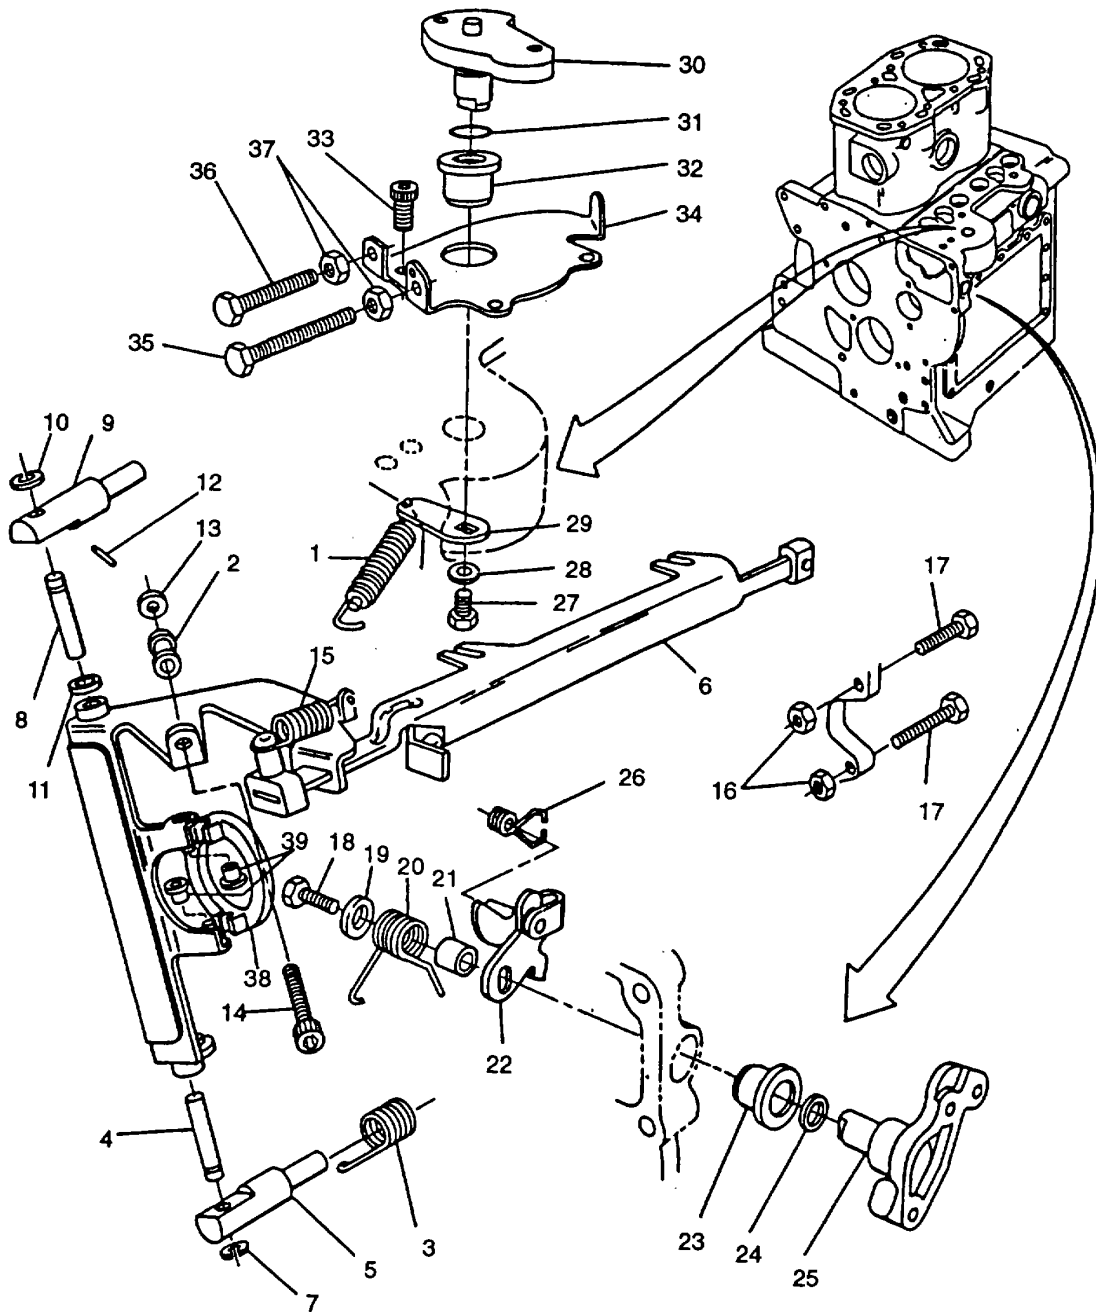
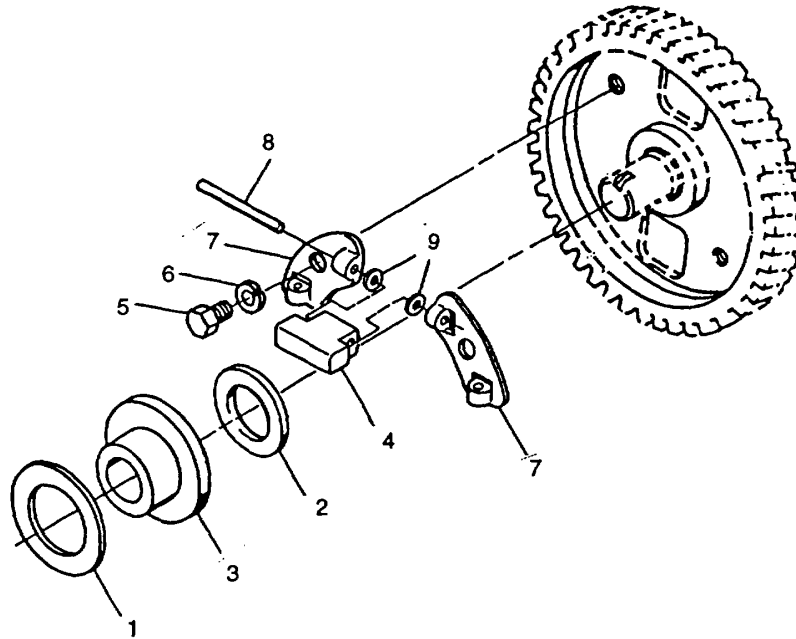

FIGURE 3-19. Governor System
FIGURE 3-20. Governor Weights
- c. Unhook speeder spring (1, FIGURE 3-19) from retainer (2) and lever (29); remove spring.
- d. Unhook spring (3) from pivot pin (4).
- e. Remove lower pivot pin (4) from lower pivot support (5) and governor lever (6). Remove pivot retainer (7). Remove spring (3) from lower pivot support (5).
- f. Remove upper pivot pin (8) from upper pivot support (9) and governor lever (6). Remove pivot retainer (10). Use care to retain all end play shims (11) that are installed.
9. Carefully remove governor lever assembly and fuel pump rack (6) from crankcase.
- a. Remove two thrust washers (1 and 2, FIGURE 3-20) and sleeve (3) from camshaft,
- b. Remove pin (12, FIGURE 3-19) shim (13) and retainer (2) from droop adjust screw (14); remove screw (14).
- c. Disconnect spring (15) from governor lever (6) bushing.
- d. Remove two nuts (16) and capscrews (17) from end cover.
- e. Remove capscrew (18) and washer (19) from inside crankcase, remove spring (20), bushing (21), and lever assembly (22). From outside crankcase remove bushing (23), preformed packing (24), and lever (26). Discard preformed packing (24). Remove trip lever spring (26).
- f. From inside crankcase, remove capscrew (27) and washer (28); remove lever (29).
9. From outside crankcase, remove speed quadrant (30) and preformed packing (31). Discard preformed packing (31).
- h. If damaged, remove bushing (32).
- i. Remove capscrew (33) securing base plate (34) to crankcase; remove base plate (34).
- j. Remove two capscrews (35 and 36) and nuts (37) from base plate (34).
- k. Remove thrust collar (38) and two bushings (39) from governor lever (6).
- l. Turn camshaft until a weight (4, FIGURE 3-20) is horizontal.
- m. Remove capscrew (5) and lockwasher (6) securing each retainer plate (7) to camshaft gear. Remove retainer plate (7) with weights. Discard lockwasher.
- n. Remove pin (8), shims (9), and weights (4) from retainer plate.
- p. Lightly lubricate pins (8) with engine lubricating oil (MIL-L-2104) and install them and shims (9) in new weights (4)
- q. Install weights (4) and pins (8) with large section of weights facing out.
- r. Install retainer plates (7) and secure each with a capscrew (5) and new lockwasher (6). Tighten capscrews to 6.5 ft-lbs (8.8 Nm)
- s. Ensure all weights (4) move freely.
- t. Install two bushings (39, FIGURE 3-19) and thrust collar (38) on governor lever (6).
- u. Install two capscrews (35 and 36) and nuts (37) on base plate (34).
- v. Position base plate (34) on crankcase and secure with capscrew (33).
- w. If removed, install new bushing (32).
- x. From outside crankcase, install new preformed packing (31) and speed quadrant (30) into crankcase hole.
- y. From inside crankcase install lever (29) on speed quadrant (30) and secure with capscrew (27) and washer (28).
- z. From outside crankcase, position bushing (23), new preformed packing (24) and lever (25) into crankcase hole.